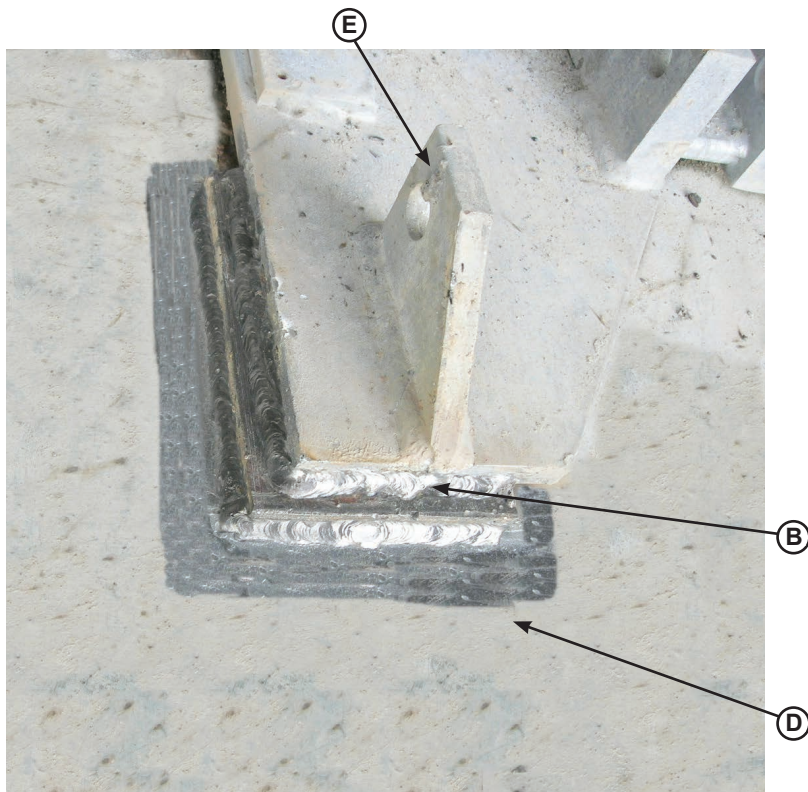

Figure 9
10" pit models only: Before installing the leveler, the storage prop trunnion (K) in the rear embed channel (E) must be shimmed (B) and welded to the embed on the pit floor (D). See Figures 9, 10 and 11.